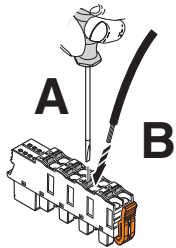

Figure 7-3 Connecting a stranded cable
- When inserting a stranded cable: Open the spring by pressing the screwdriver onto the spring lever (Figure 7-3, A). Use, for example, a bladed screwdriver with a blade width of 2.5 mm. Phoenix Contact recommends the SZS 0,4x2,5 screwdriver (see Section “Ordering data” on page 114).
- Insert the cable in the terminal point (B).